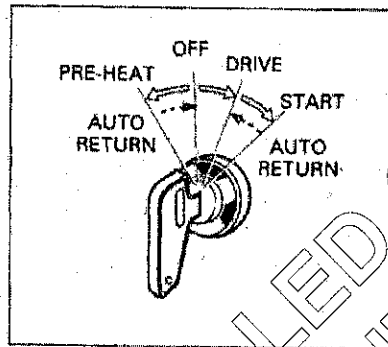

Fig 12 Starter switch (control resistance)
- 45 The type with a control resistance (Fig 12)
- (1) Turn the starter switch key counter-clockwise to PRE-HEAT position in order to heat the glow plugs on the engine.
- (2) Turn the starter switch key clockwise to START position as soon as the control resistance coil indicates red heat.